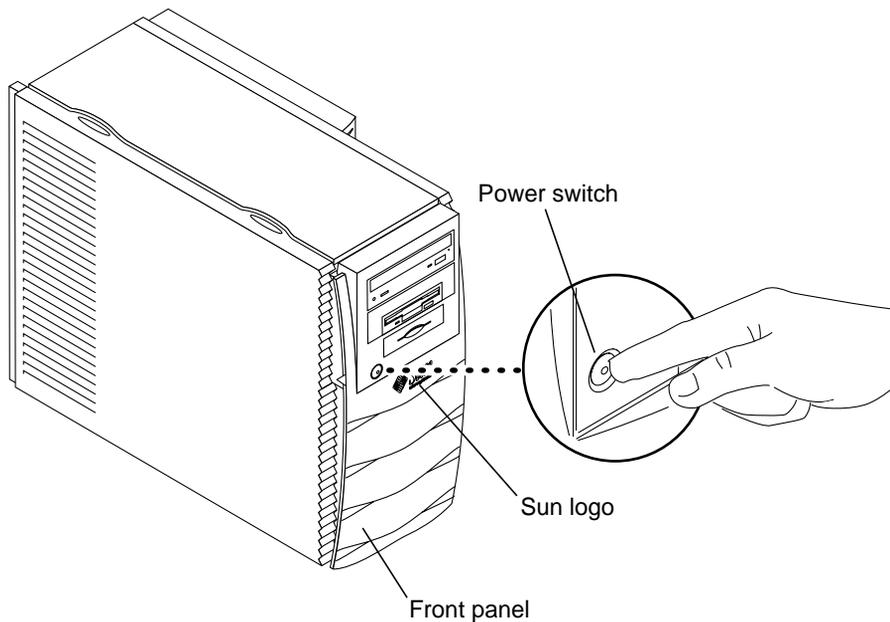

FIGURE 5-1 Workstation Power Switch
- i. **Press and release the front panel power switch (FIGURE 5-1) to automatically shut down all programs, the Solaris operating environment, and to power off the workstation.**
- i. Press the front panel power switch (FIGURE 5-1) to power off the workstation.
- c. If the workstation is at the ok prompt (OpenBoot interface) press and hold the front panel power switch for four seconds (see FIGURE 5-1) to power off the workstation.